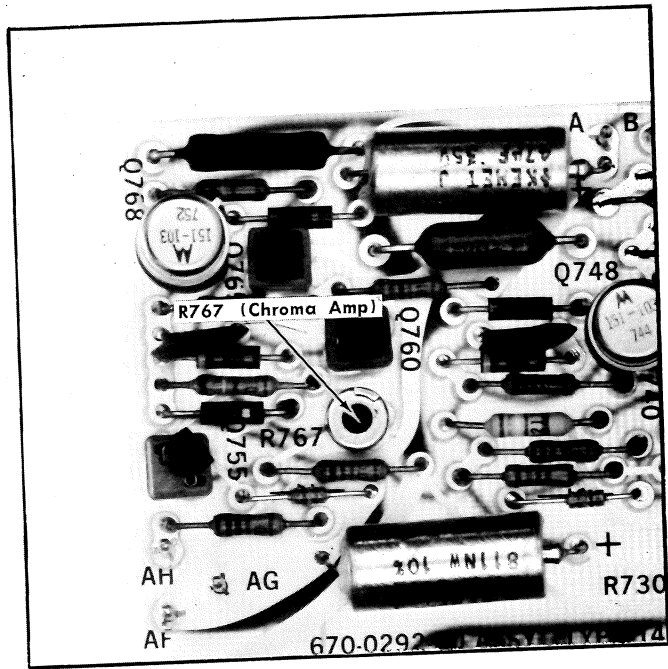

Fig. 5-48. Bar Drive and Video Output board adjustment location.
k. ADJUST—Chroma Amp control, R767, (see Fig. 5-48) until the top of the bottom display just coincides with the bottom of the top display.